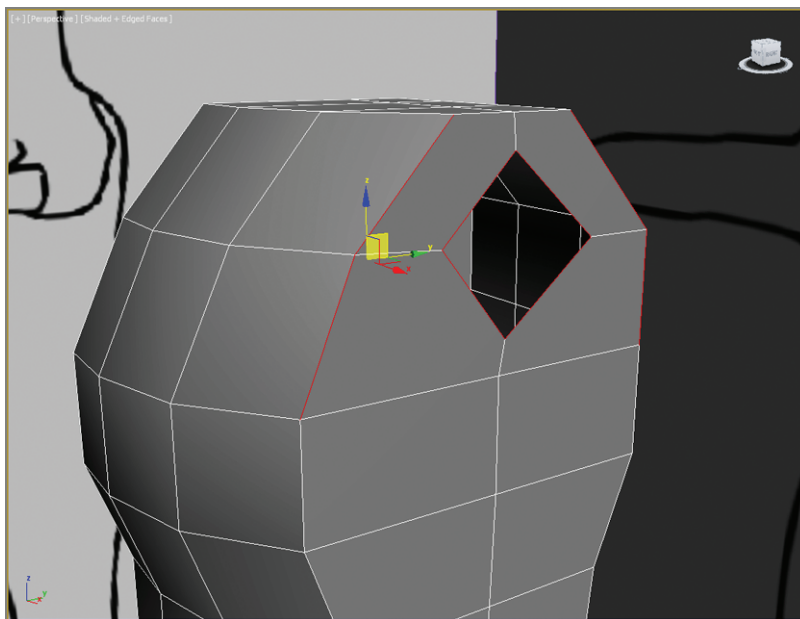

FIGURE 7.11 Select these eight edges.
18. Switch to Edge mode (keyboard shortcut 2) and select the four diagonal edges of the diamond-shaped armhole and the four edges shown in Figure 7.11.